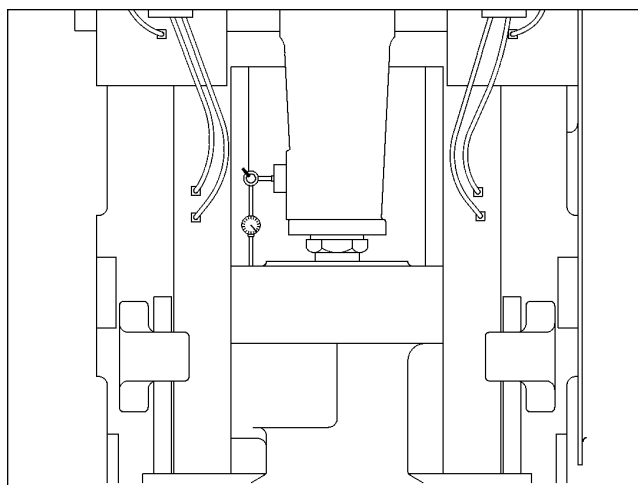

Figure 6F. Checking slide ball box clearance.
8. Place a base mounted dial indicator on the side of the connection assembly. Position the dial indicator so that its spindle contact point is perpendicular to the top of the slide. (See Figure 6F.)